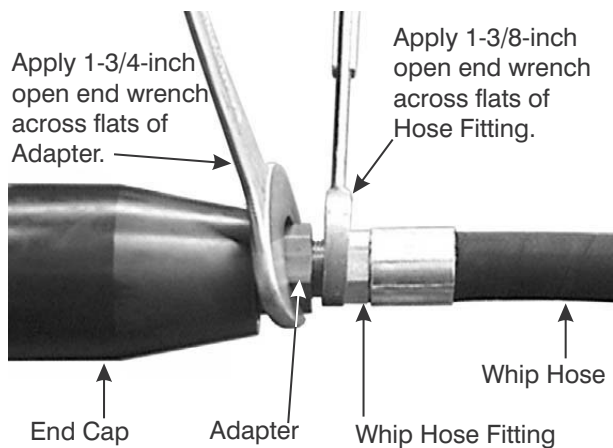

Figure 8-7. Remove Whip Hose.
1. Place the Tail Assembly in a vice or saddle clamp. Secure the End Cap (9) tight enough to hold Tail Assembly in place.
2. Using a 1-3/4-inch open-end wrench to hold the Adapter (11) in place, use a 1-3/8-inch open-end wrench to loosen and thread the hose fitting of Whip Hose (13) from the Adapter. Refer to Figure 8-7.